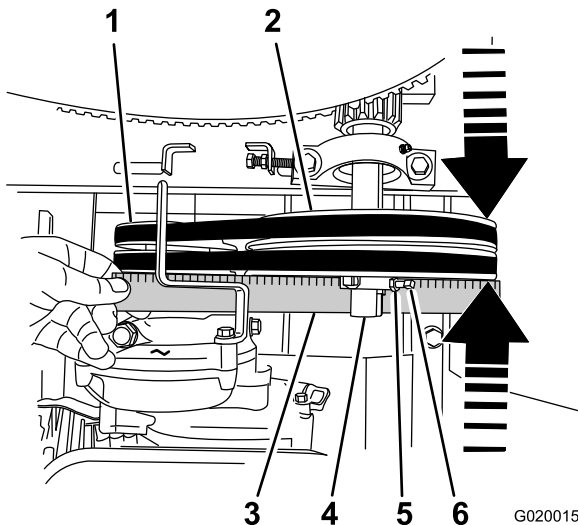

Figure 60
- B. Loosen the locknuts and setscrews that secure the idler pulley to the idler shaft (Figure 60).
- C. Using a soft-face mallet, tap the idler pulley forward or backward along the idler shaft until the engine pulley and the idler pulley are aligned to the straight edge (Figure 60).
- D. Tighten the setscrews and locknuts that secure the idler pulley to the idler shaft (Figure 60).
2. Place a straightedge across the face of the engine pulley and the idler pulley (Figure 60).